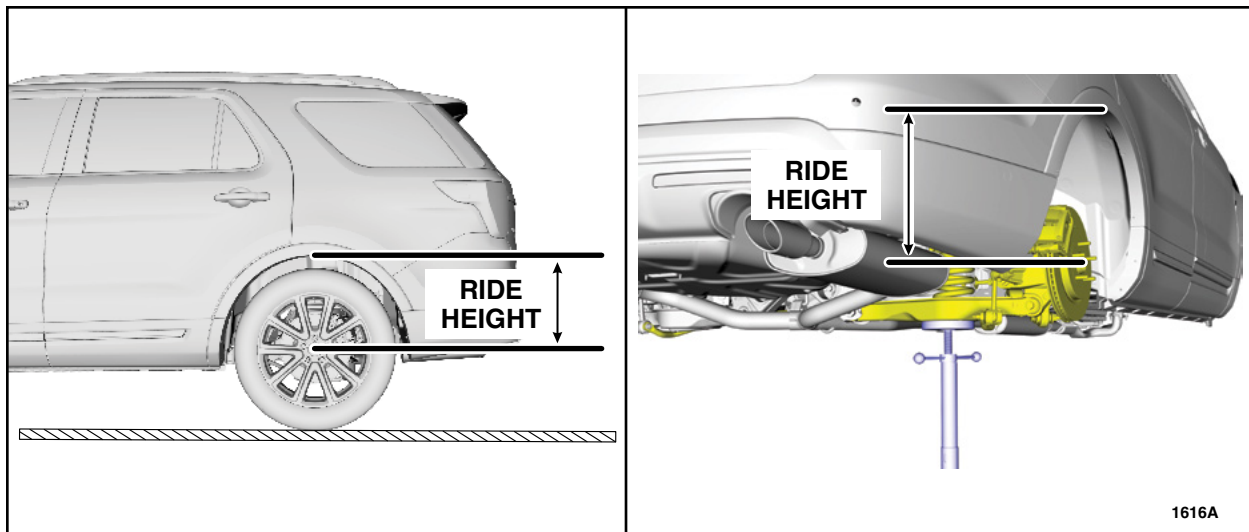

FIGURE 1
1. Measure the distance from the center of the wheel hub to the lip of the fender with the vehicle in a level, static ground position (ride height) before disassembly. See Figure 1.
NOTE: The toe links must be secured at ride height during replacement. See Figure 1.